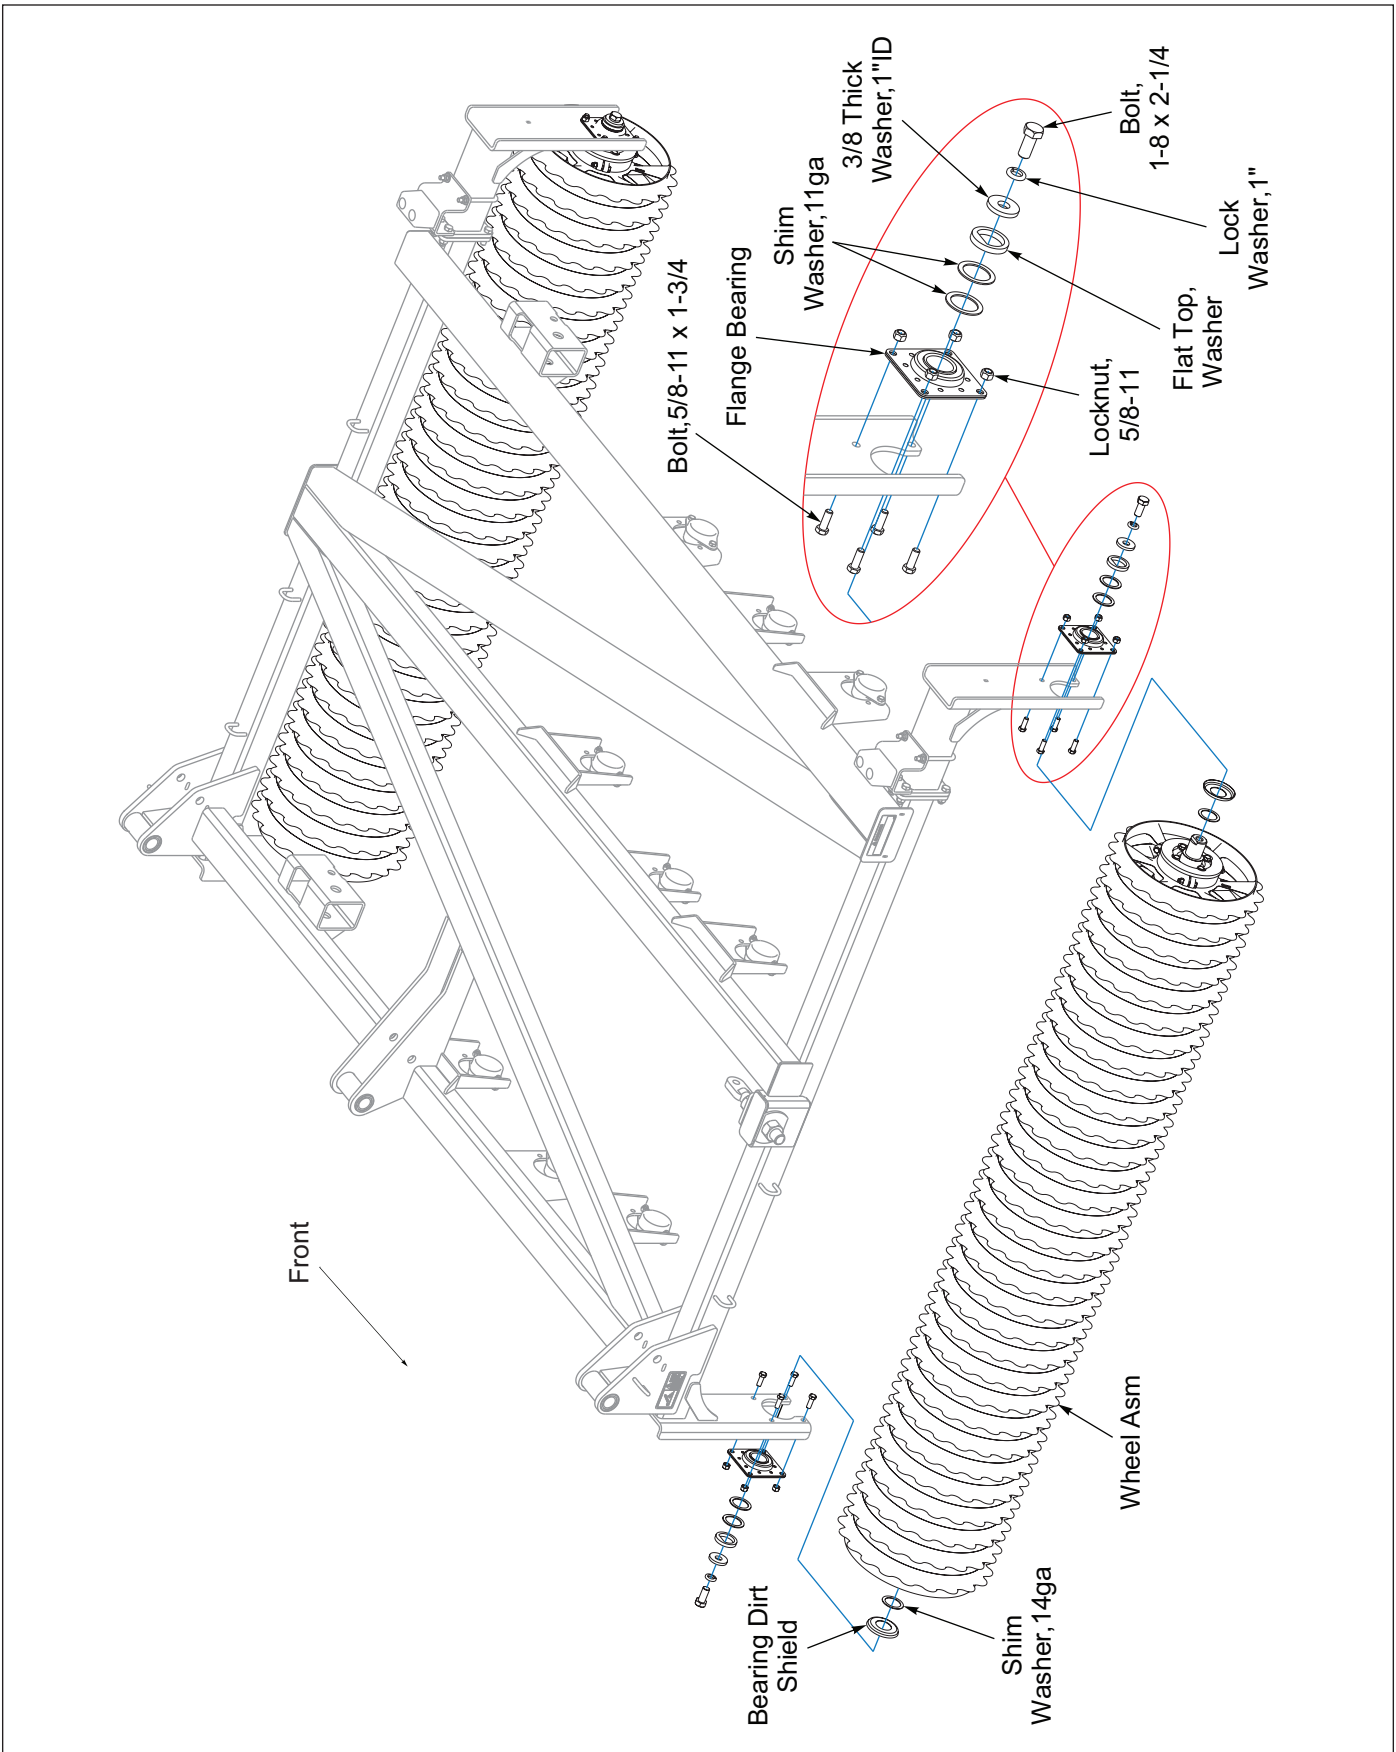

Figure 2-56: Left Hand Wing Roller Installation
2. Insert 5/8-11 x 1-3/4 Bolts into Frame Bearing Hanger. Place a Dirt Shield on each end of the Roller Stub Shaft so that the cupped portion will be towards the Bearing. Slide the Bearing onto the Roller Stub Shaft. Lift up while supporting the Roller Assembly so that the Bearing can be assembled with Locknuts onto the outside of the Frame Bearing Hanger. Bearings should be tight against the Bearing Hanger. Push the Dirt Shield against the Bearing inner ring and check the gap on each end between the Dirt Shield and Roller Stub Shaft Shoulder. Remove Bearing and add Shim Washer(s) as necessary. **See Figures 2-56 and 2-57.** The bearing inner ring has an internal rubber mount to allow for up to 1/16" of excess gap.